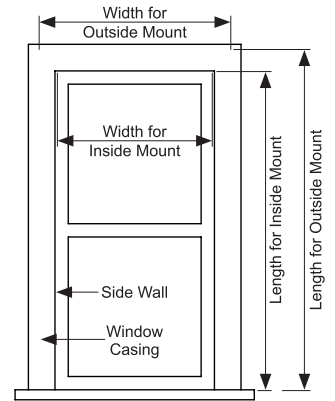

Figure 5. Measurements on a window
Step 1. See **Figure 5**.
Step 6. Mount the brackets to the window casing according to the marked locations in **Figure 5** (see page 1). **Figure 7** shows the proper placement options. Brackets should be mount no more than 4" from the end of the cassette. For long cassettes, use more wall brackets. Maximum 6' between wall brackets, depending on the weight of your shade.